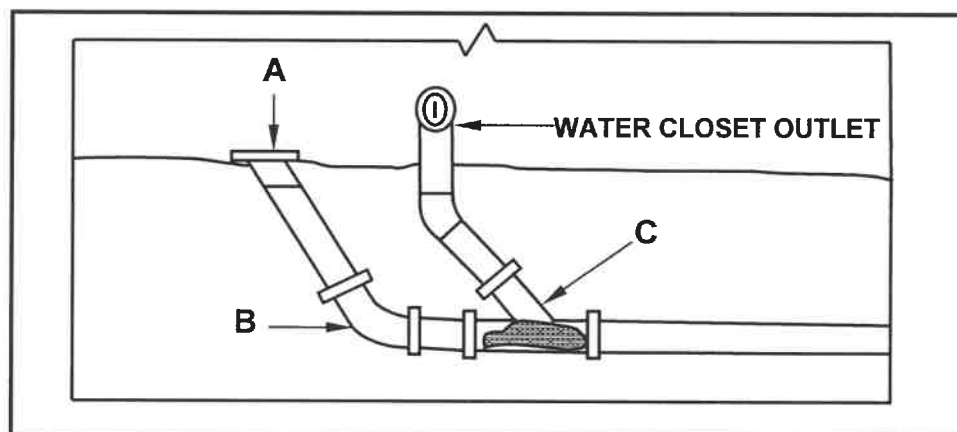

FIGURE 4.3
4.3 FIGURE 4.3 below shows a blocked sewer pipe.